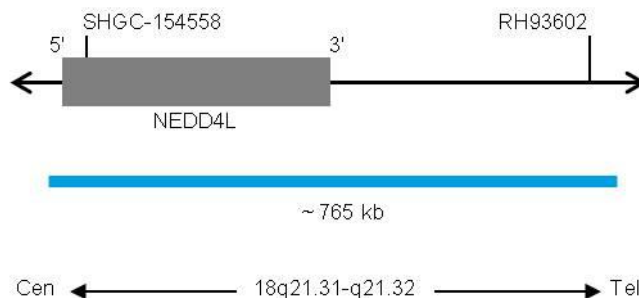

Fig. 1: SPEC 18 Probe map (not to scale)
- ZyBlue (excitation 418 nm/emission 467 nm) labeled polynucleotides (~37 ng/μl), which target sequences mapping in 18q21.31-q21.32\* (chr18:55,690,725-56,455,119) (see Fig. 1).